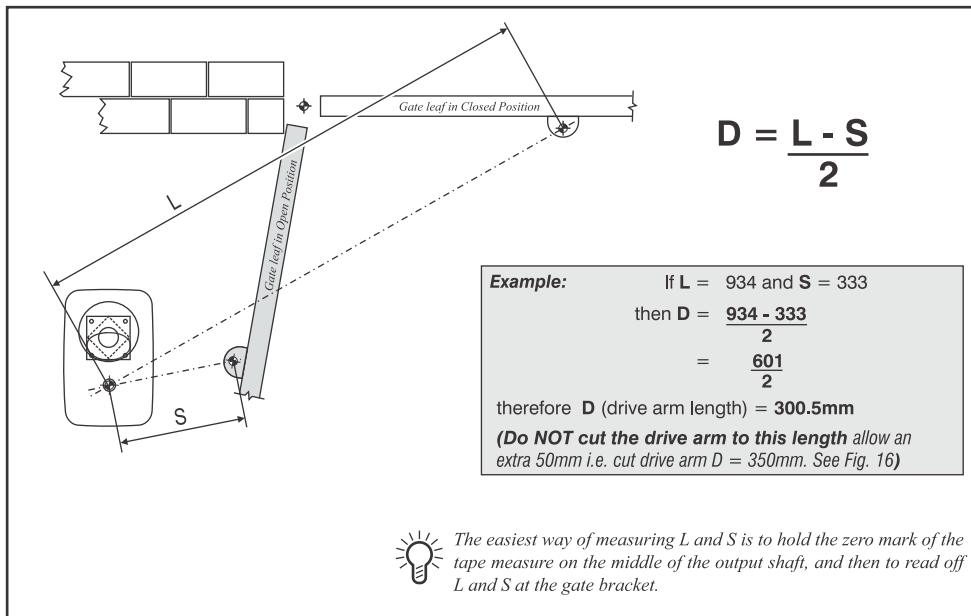
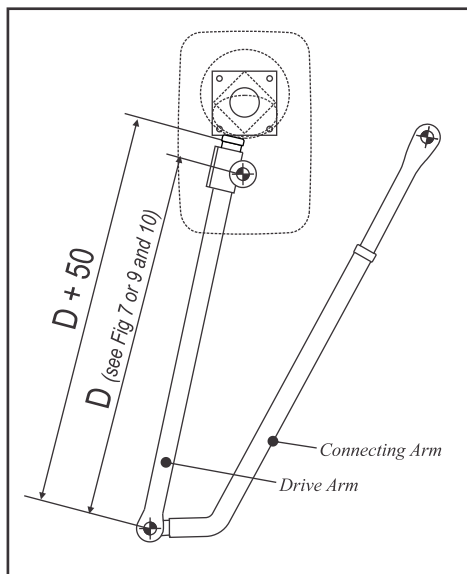

Figure 15 Determining Drive Arm Length for Standard Pedestal & Outward Opening Gates
Figure 16 Adjust Drive Arm length
Measure dimensions L (long) and S (short) as in Fig. 15 and calculate the drive arm length D as shown in Fig. 15. **DO NOT CUT THE DRIVE ARM TO THIS LENGTH.** Cut the drive arm at least 50mm longer than D. The cut length is therefore = $D + 50\text{mm}$. (See Fig. 16)
From the tables on Fig. 8, determine the drive arm length D, and select the **boldface** value if the motor is mounted in the recommended. **DO NOT CUT THE DRIVE ARM TO THIS LENGTH.** Cut the drive arm at least 50mm longer than D. The cut length is therefore = $D + 50\text{mm}$ (see Fig. 16)
Determine the drive arm length (D) from Figures 10 and 11. **DO NOT CUT THE DRIVE ARM TO THIS LENGTH.** Cut the drive arm at least 50mm longer than D. The cut length therefore = $D + 50$ mm (see Fig. 16)